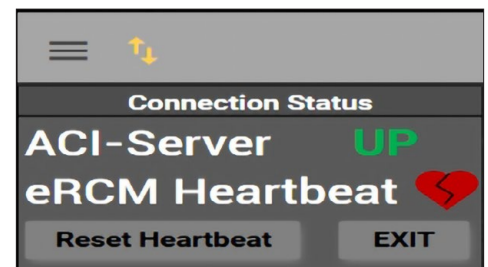

Figure 10
The communication status between the DE/ACM-4000 system and the ACI Server (eRCM Express) is indicated by two vertical arrows in the top-left corner of the eRCM dashboard. See *Figure 9* and *Figure 10*. The color of the status arrows indicates the current connection status:
1. Select the yellow communication status to open the Connection Status pop-up. See *Figure 10*.